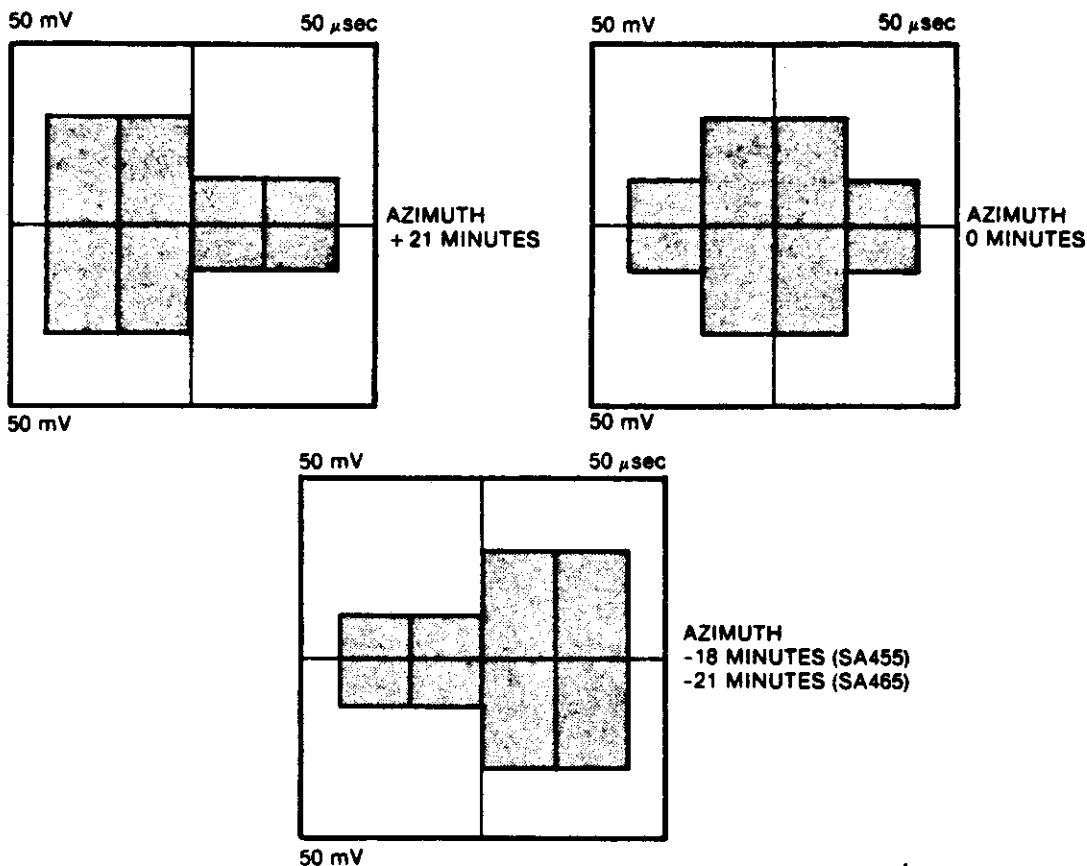

FIGURE 5-8. AZIMUTH CHECK
- e. Compare waveform to figure 5-8. If not within range shown, replace read/write head assembly.